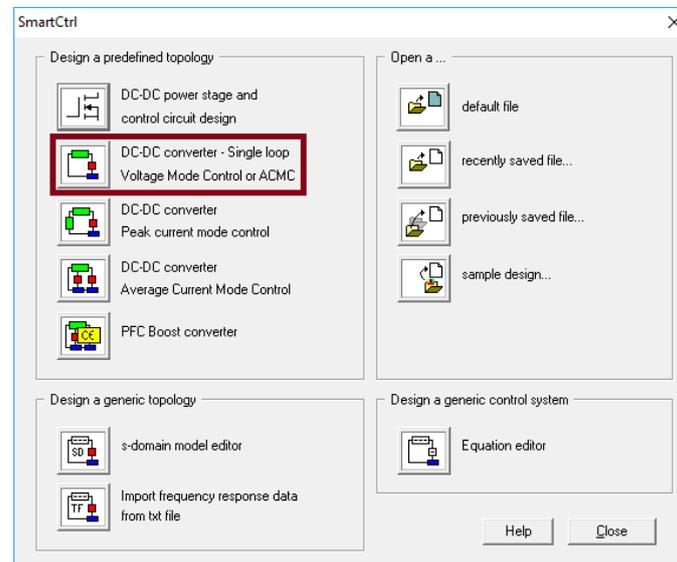

Figure 1: SmartCtrl start menu
1. Select the power converter topology and the type of control. In this case, it is a voltage mode controlled Buck converter. To start the design click in DC-DC converter – Single loop design mode control or ACMC, see Figure 1.